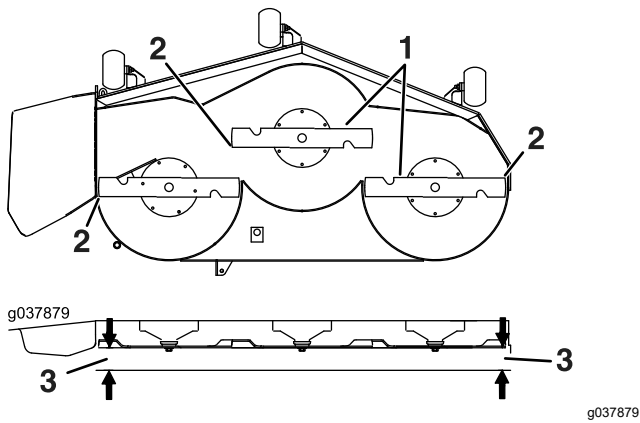

Figure 119
6. Measure between the blade tip and the flat surface (Figure 119). If both measurements are not within 5 mm (3/16 inch), adjust the leveling; continue with this procedure.
13. Carefully rotate the blades side to side (Figure 119).